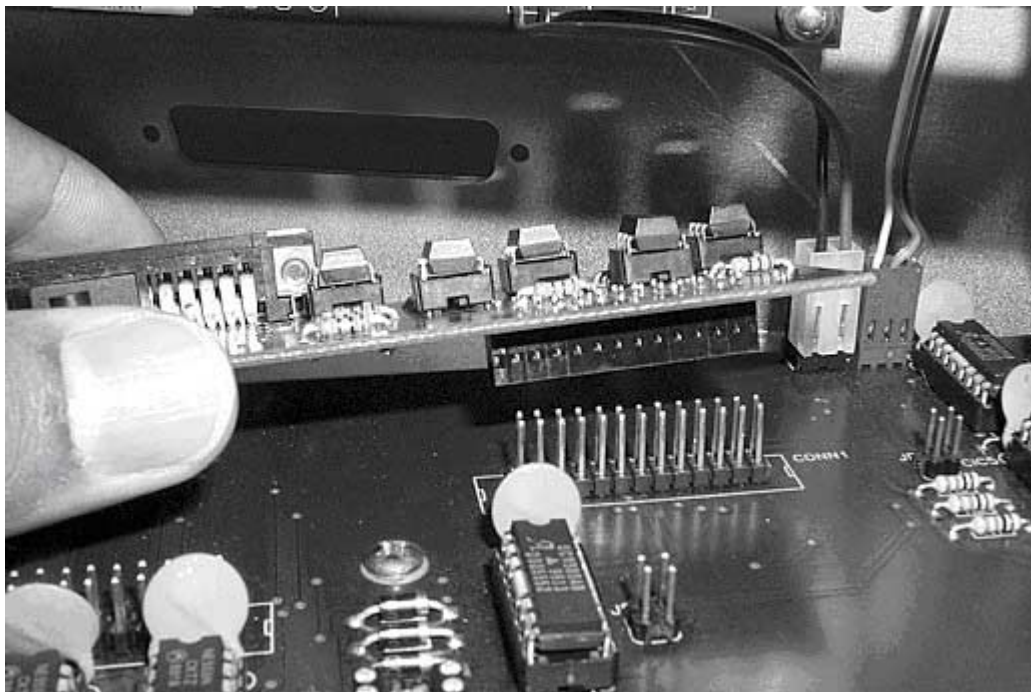

Figure 1-16. View of Daughter board attaching to the I/O board.
12. Attach the daughter board to the top of the I/O board. See Figure 1-16.